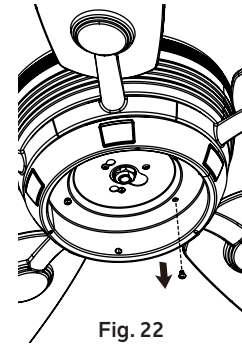

Fig. 22
Step 1. Remove one of the three screws on the light plate, loosen the other two (but do not remove). (Fig. 22)